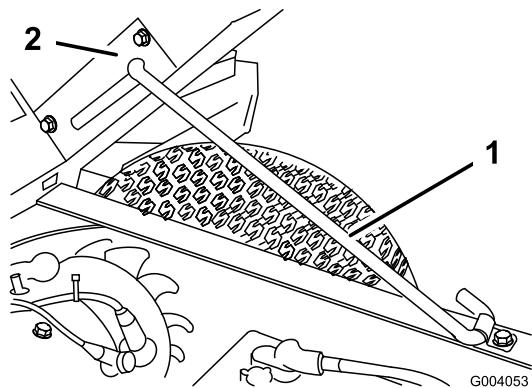

Figure 13
2. Pull the prop rod into the detent slot, securing the box (Figure 13).